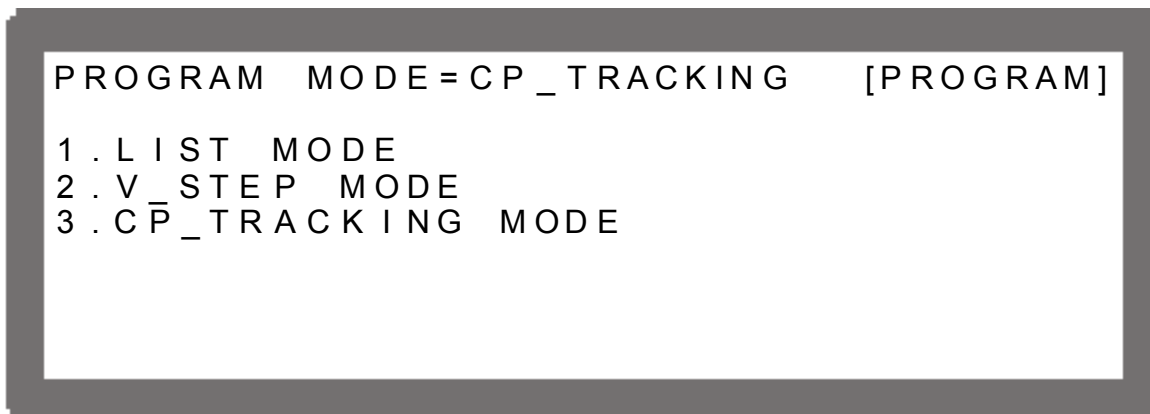

Figure 4-1
2. It displays PROGRAM options as Figure 4-1 shows.
5. Press “” to return to Figure 4-1.